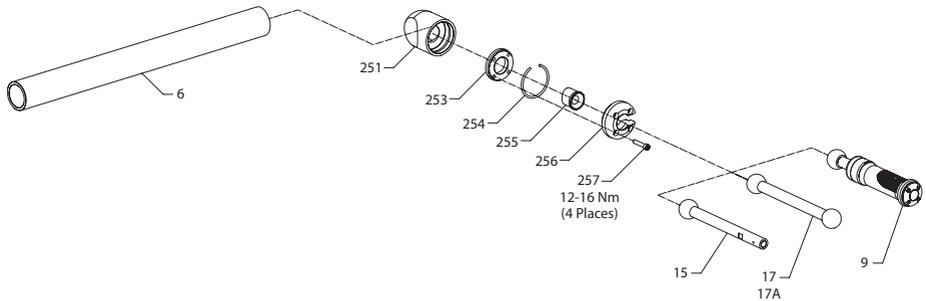

Figure 9
- Slide-in Holder (251) over Tube (6) as in Figure 9.
- Insert Nut Plate (253) into Holder (251) with larger diameter entering first.
- Insert Ball Shuttle (255) inside Holder (251) with curved face entering first.
- Snap fit Internal Ring Round Wire (254) into Holder (251) and ensure its positioning into the groove provided.
- Engage ball end of Handle/Ball End Shaft/Ball to Ball Shaft-Short (9/15/17) via slot of Socket Ring (256) and align the ball to be in-between curved faces of Socket Ring (256) and Ball Shuttle (255).
- Align Socket Ring (256) to Nut Plate (253). Set the orientation of Handle/Ball End Shaft/Ball to Ball Shaft-Short (9/15/17) and then clamp Socket Ring (256) to Nut Plate (253) using fastener Cap Head Screw (257).
- Once Socket Ring (256) is clamped to Nut Plate (253), the position and orientation of Holder (251) is also locked automatically with respect to Tube (6).
- Loosening of fastener Cap Head Screw (257) will allow adjusting the orientation of Handle/Ball End Shaft/Ball to Ball Shaft-Short (9/15/17). Fastening these back, to the recommended torque value, makes the joint rigid.